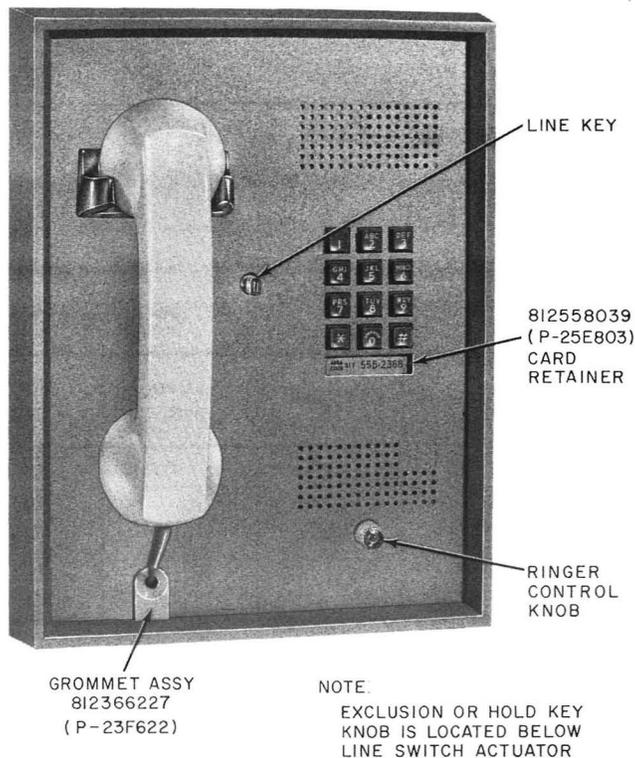

Fig. 1—2751-Type Telephone Set
1.01 This section contains information for the 2751-type telephone sets (Fig. 1). **These sets are intended for business type service only.**